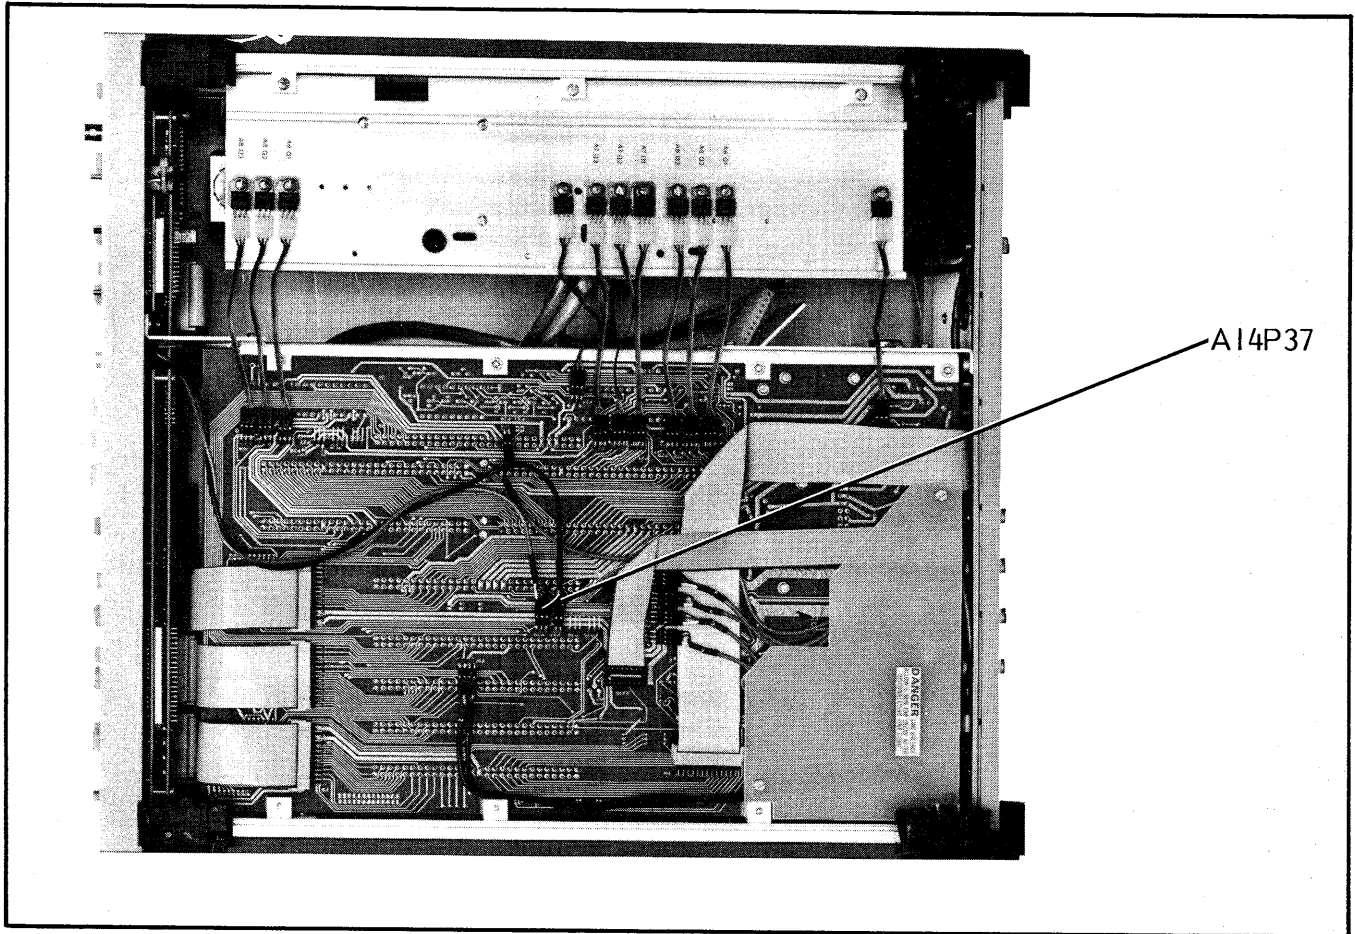

Figure 7-2. 6600A Series Programmable Sweep Generator, Bottom View
4. Disconnect the cable connector from A14P37 (Figure 7-2).